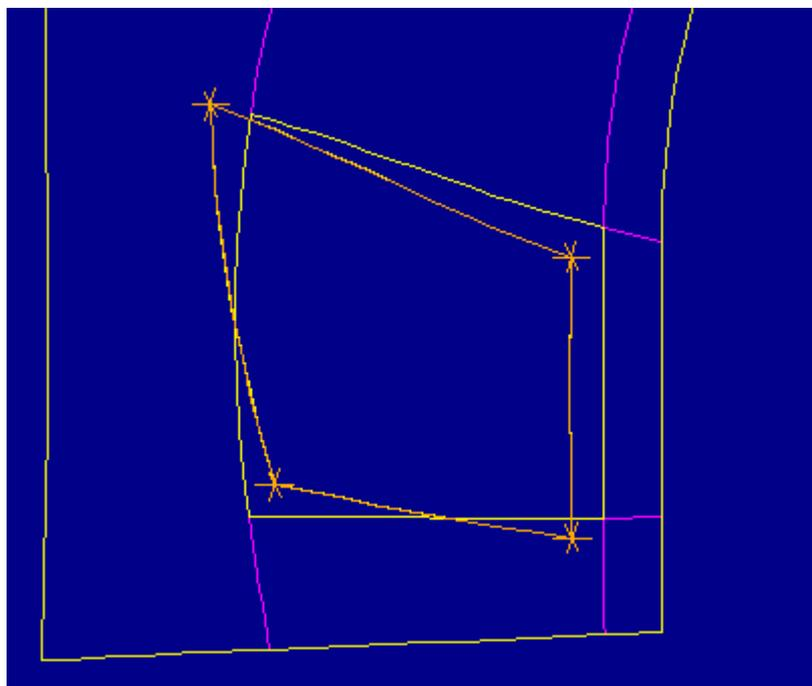

Figure 20
16. In the SELECT SURF menu select **Sel Surface** and the meshed surface. In the SELECT CONT menu select **Sel Contour**. In the CHAIN OPT menu select **Select A**. Figure 20 shows the original contour ready to be edited.